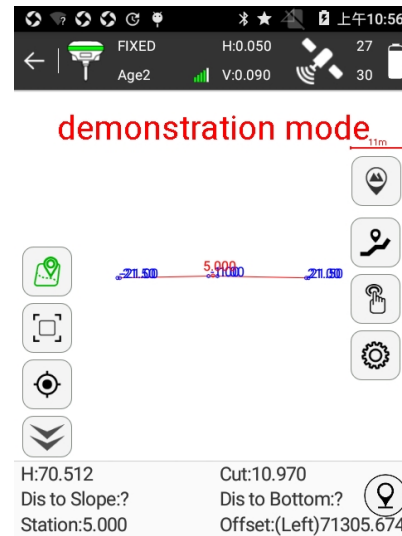

Figure 5.6-5
3. Press to enter slope stakeout interface as shown in Figure 5.6-5. It will automatically display slope graph in the range of current mileage based on the currently calculated mileage. In screen it displays current point's position in slope in real time, and bottom status bar displays specific data of Distance to Slope, Distance to Top/Bottom, Height and Cut and Fill. In graph the middle red of cross section shows current mileage, and the blue number shows the offset at the intersection of related plates